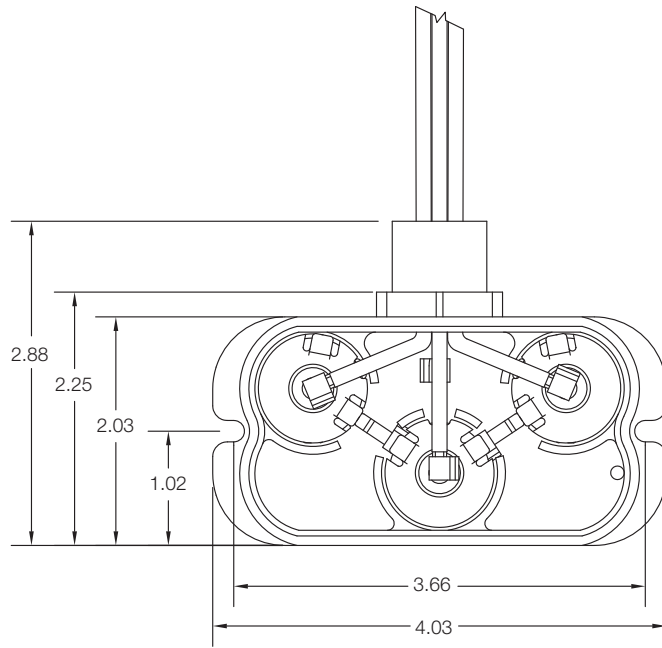

Figure 2. MOV Storm Trapper surge arrester top view cutaway with dimensions.
2. Refer to the appropriate wiring diagram in Figure 2 for the proper connections.